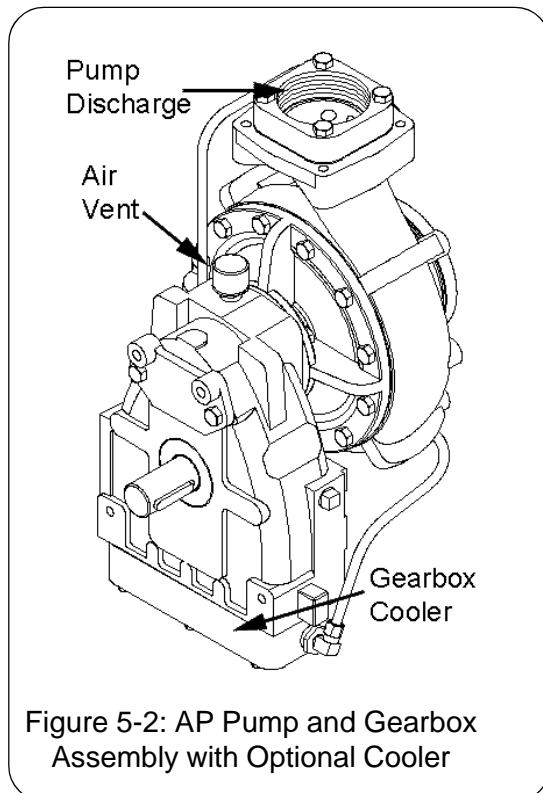

Figure 5-2: AP Pump and Gearbox Assembly with Optional Cooler
**NOTE:** These procedures refer to Figures 5-2 and 5-3. Please review the *General Repair and Cleaning and Inspection Guidelines* on page 37 before beginning these procedures.
5. Remove the magnetic oil-drain plug (see Figure 5-2). Drain the gearbox oil into a suitable container. Examine the oil for included water (water turns the oil a milky color or settles in the bottom of the oil) and properly dispose of the oil.